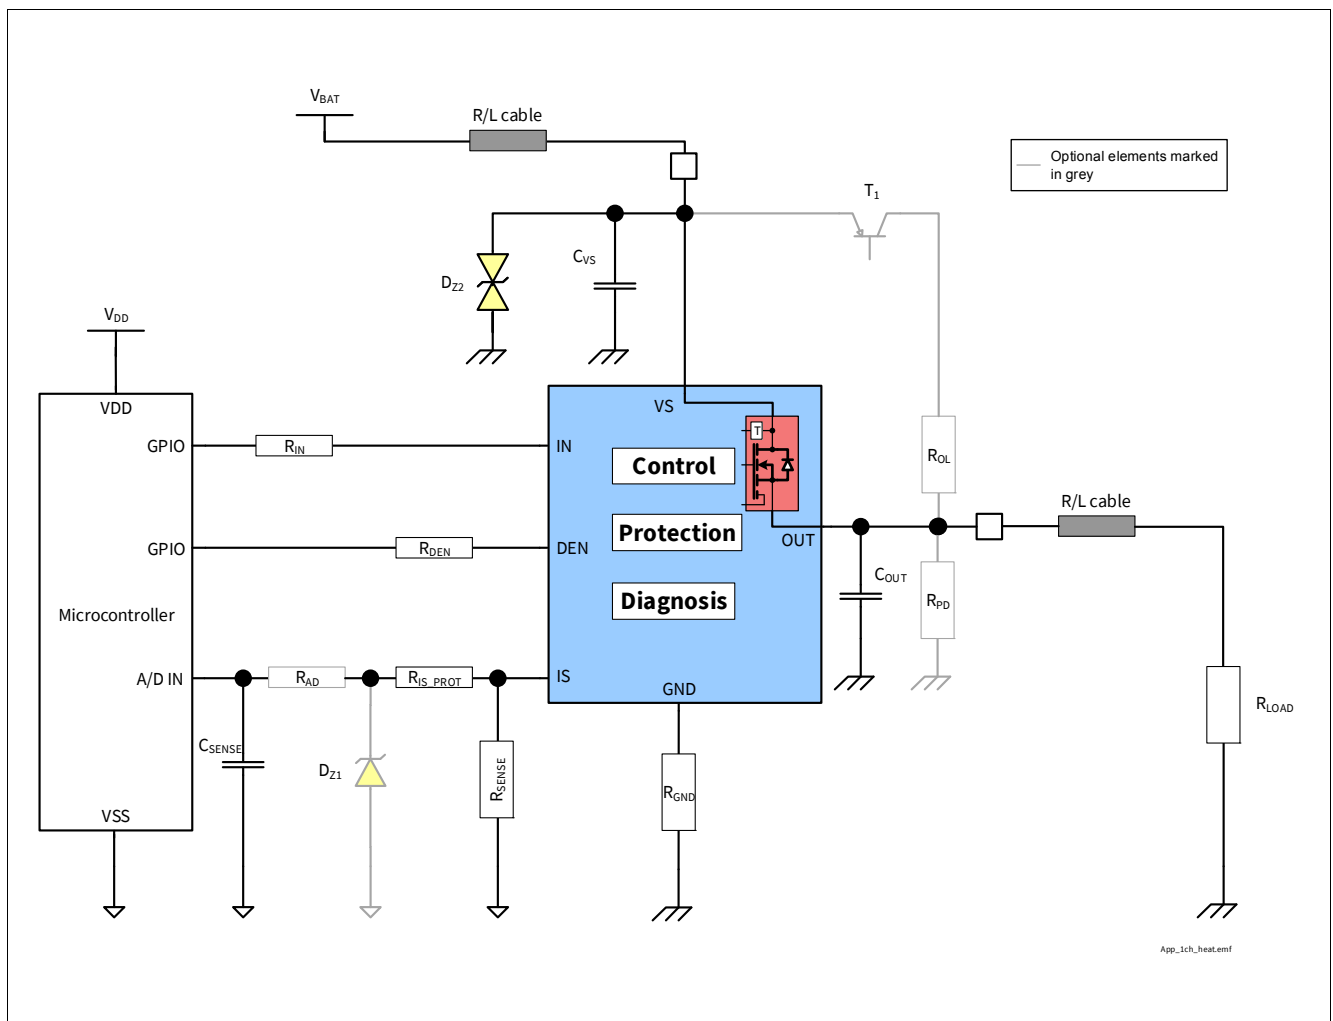

Figure 37 BTS7006-1EPP Application Diagram
1.01, 2018-06-14	<p>Page numbering corrected</p> <p>Figure 1, Figure 29, Figure 37 updated</p>